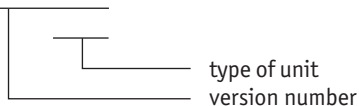

*Fig. 1: Spring casing*
- ▶ Do not open the spring casing of the wire-actuated encoder (see Fig. 1).